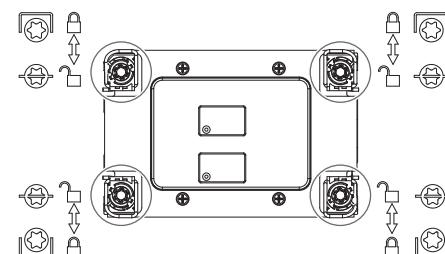

**Figure 3**
4. Identify processor Pin 1 and onboard socket Pin 1 to decide the heatsink installation direction; for certain motherboards, the Pin 1 location will be different with CPU1 and CPU2. (Figure 3 & 4)